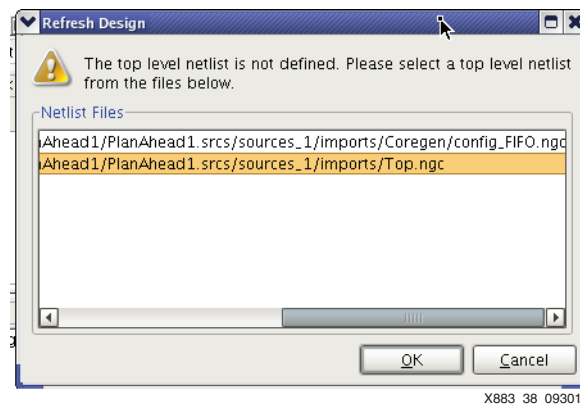

Figure 38: Select the Target Netlist
10. When asked which source netlist is the top level, select the target netlist (see Figure 38). Click **OK**.